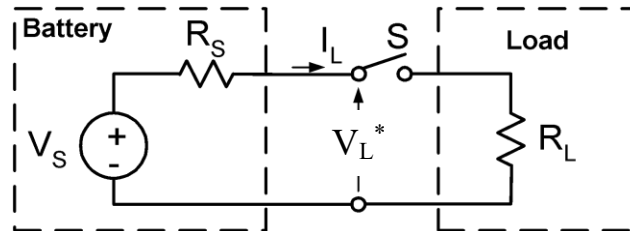

Figure 2.3
A. For the circuit drawn in Figure 2.3 (with the switch open), answer the following questions given $V_S = 1.3\text{V}$.